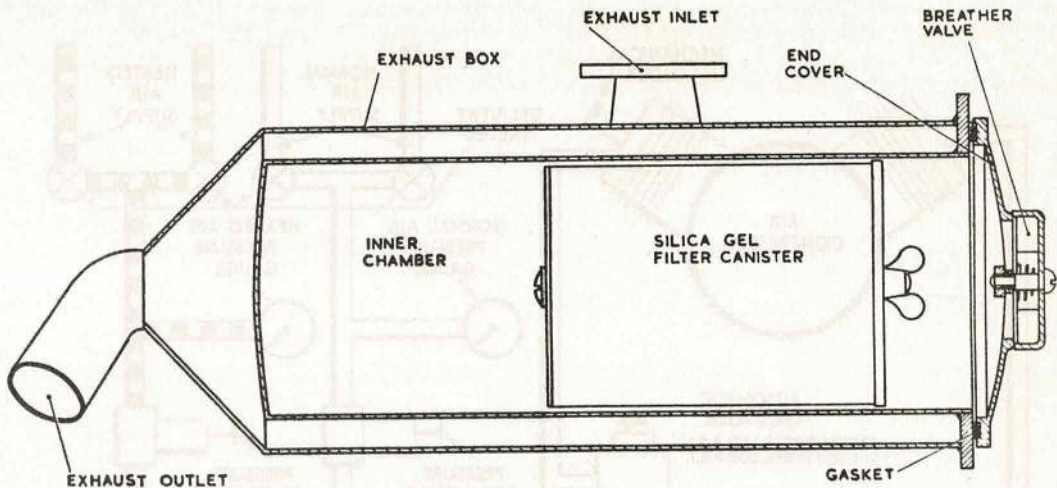

Fig. 13. HOT CHAMBER
30. Hot Chamber. This component (Fig. 13) acts as a silencer and also has a heated inner chamber which is used for reactivating the silica gel used in the air system filter. The spring-loaded breather valve operates automatically to release any pressure which may be caused by the steam generated when the moisture saturated silica gel is heated.